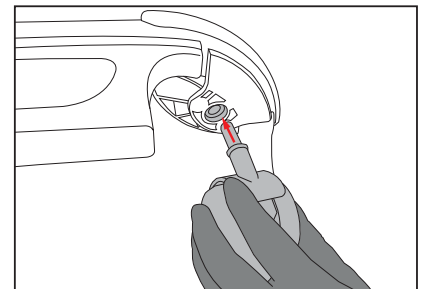

Figure 2.1
- Insert the post of one of the front wheels into the hole in one of the front corners. Push firmly until the post is fully engaged. **See Figure 2.1**.